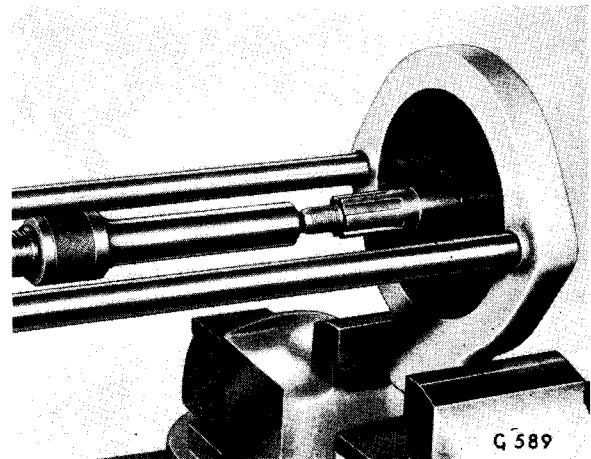

Fig. 38. Withdrawing pinion head bearing
Remove the split pin (55), nut (56) and plain washer. Withdraw the flange (57) from the pinion (67) and drive the pinion from the casing. Carefully keeping all shims intact, remove these and the spacer (61) from the pinion. Extract the pinion head bearing and selective spacer (66) using Tool No. S.4221A-17, as shown on Fig. 38.